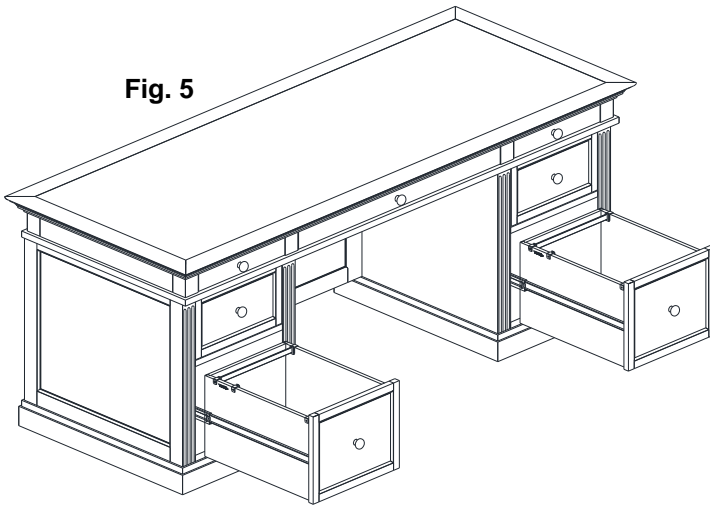

**Fig. 4**
4. Close the drawers back to their previous positions as shown in **fig. 4**.